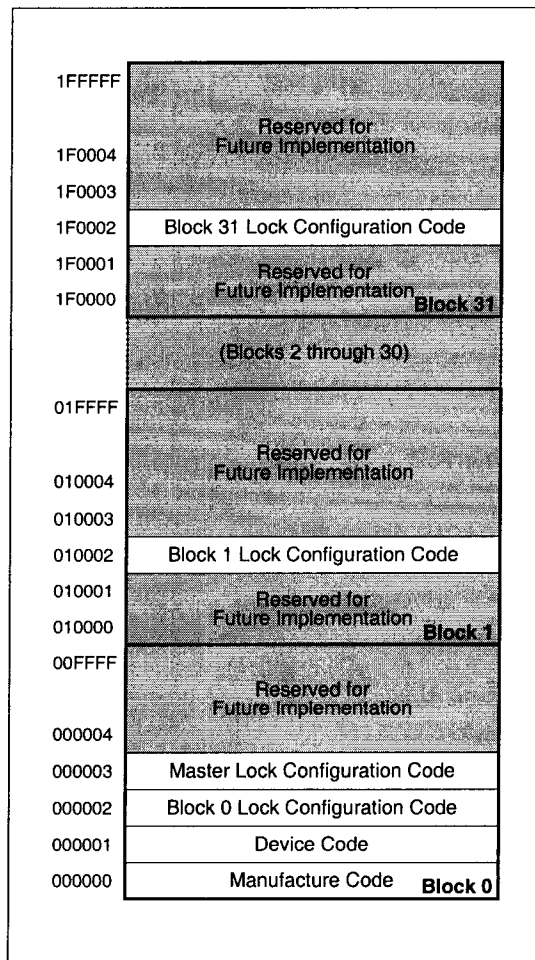

Fig. 2 Device Identifier Code Memory Map
The read identifier codes operation outputs the manufacture code, device code, block lock configuration codes for each block, and the master lock configuration code (see Fig. 2). Using the manufacture and device codes, the system CPU can automatically match the device with its proper algorithms. The block lock and master lock configuration codes identify locked and unlocked blocks and master lock-bit setting.
IA = Identifier code address : see **Fig. 2**.
The identifier code operation is initiated by writing the Read Identifier Codes command. Following the command write, read cycles from addresses shown in **Fig. 2** retrieve the manufacture, device, block lock configuration and master lock configuration codes (see **Table 4** for identifier code values). To terminate the operation, write another valid command. Like the Read Array command, the Read Identifier Codes command functions independently of the V_{PP} voltage and RP# can be V_{IH} or V_{HH}. Following the Read Identifier Codes command, the following information can be read :
1. X selects the specific block lock configuration code to be read. See **Fig. 2** for the device identifier code memory map.